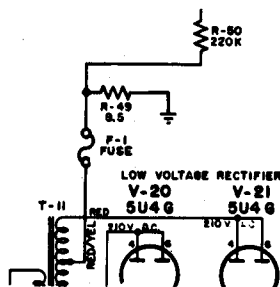

Fig. 67 — Emerson
**Increasing video drive at high contrast setting (see Fig. 67).**